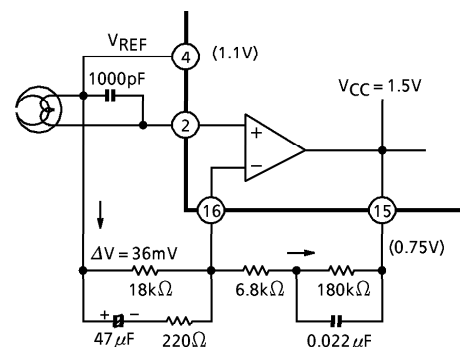

Fig. 4 NFB terminal
The resistance of 18kΩ is advisable to be connected between NFB terminal (Pin⑯ and ⑩) and V_{REF} for using this IC. That is because NFB terminal is designed to have the off-set voltage (ΔV = 36mV) against each terminal (Pin ②, ③, ⑤ and ⑥). Therefore, the DC potential of the output terminals (Pin⑮ and ⑪) can be set at about V_{CC}/2 with the current produced by this off-set potential. (Fig.4)